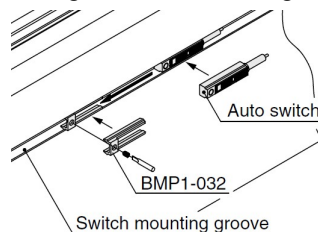

Fig. 18
1. Hold the switch spacer then push it into the groove (Fig. 18).